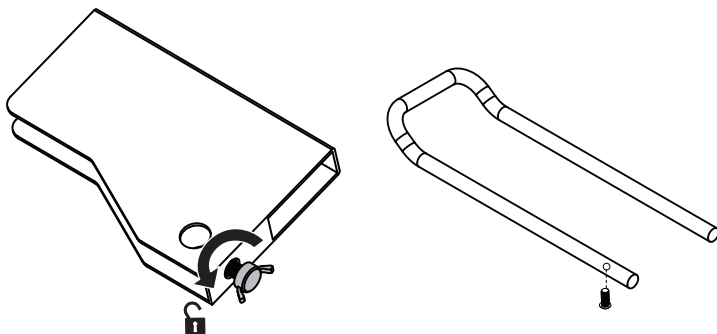

Figure 4
- 1) Loosen the screw on the side of the brace by turning it anti-clockwise. (See Fig. 4)
- 2) Loosen and remove the screw installed on the top of the extension bar. (See Fig. 4)